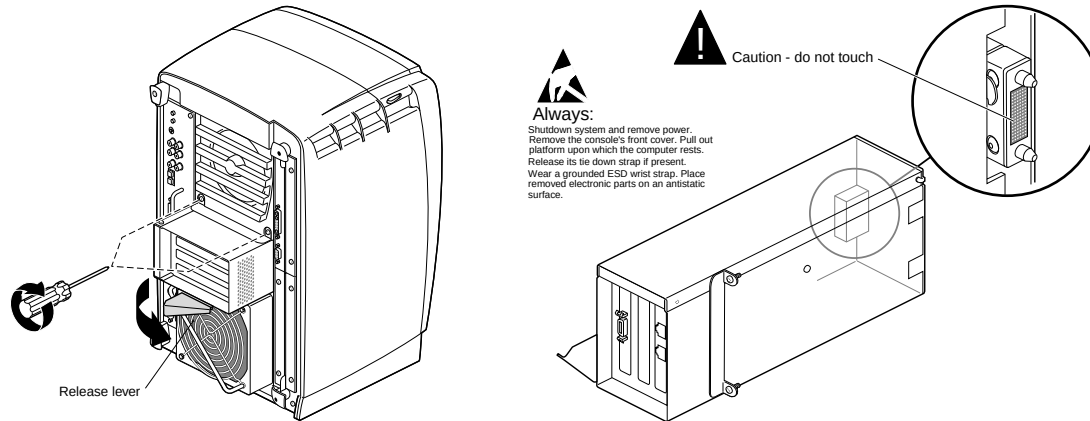

Figure 3 - Removing the PCI Module
- 1.) Loosen the two captive screws (see Figure 3).
- 2.) Pull out the release lever along the bottom of the module (see Figure 3).
- 1.) Slide the PCI module in the replacement computer. Do not to allow the compression connector to touch anything. (Figure 3).